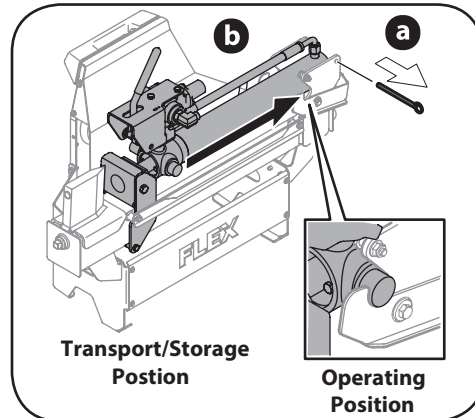
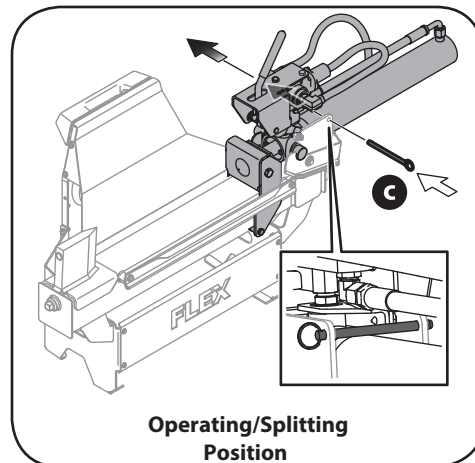

Figure 4-4
Figure 4-5
2. Pull the locking pin (a) from the cylinder base. Slide the cylinder back to lock in place. See Figure 4-4.
3. Reinstall the locking pin (c). See Figure 4-5.
**IMPORTANT:** For proper valve control handle function, cylinder must be fully seated and locked in operating position. Refer to Figure 4-4 and Figure 4-5.